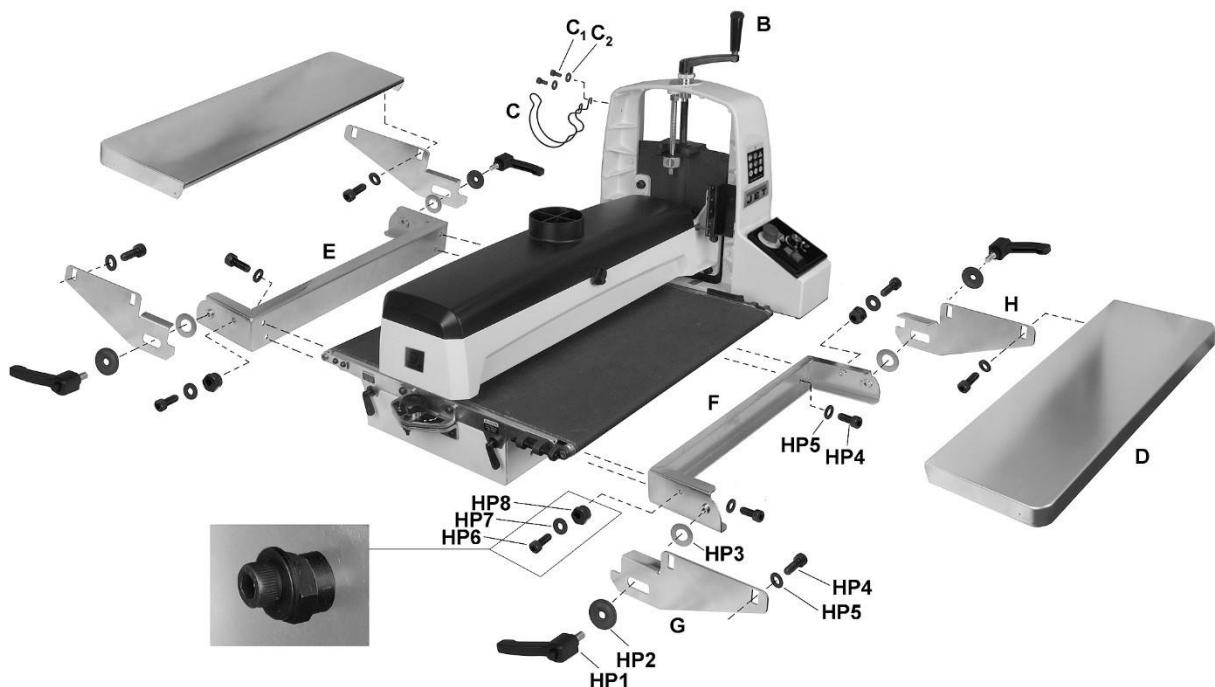

Figure 6-3: Assembly of Sander and OPTIONAL Infeed/Outfeed Tables
1. Install height adjustment handle (B, Fig 6-3) onto spindle and tighten set screw.
2. Install hose hanger (C) with screws and washers (C_1/C_2).
1. Install infeed and outfeed brackets (F, E, Figure 6-3) to the threaded holes in sander base with socket head screws and flat washers (HP4/5). Make sure left and right brackets are oriented as shown. The brackets should be flush against the base.